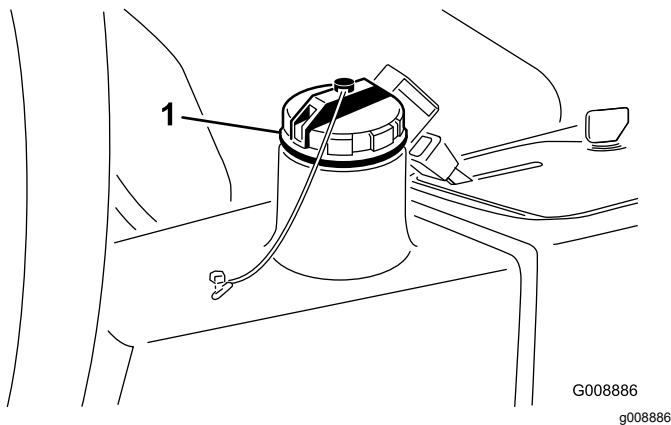

Figure 32
- Mobil EAL EnviroSyn H 46 (US)
- Clean the area around the filler neck and cap of the hydraulic tank (Figure 32).